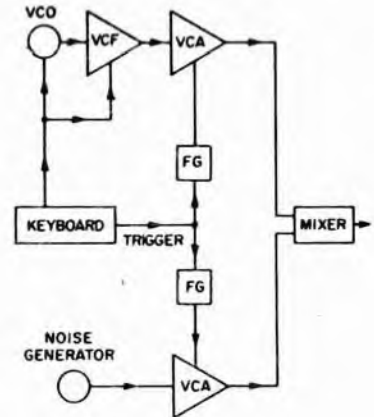

Fig. 15. Adding a little noise to the circuit adds strange qualities to the sound.
We can do a little more to improve realism. For instance, we could add a little noise, as in Figure 15, to simulate the sound of the musician's breath. This noise should have a somewhat faster attack and decay, than the VCO signal, at a much lower level.
**Synthesizing a Drum.** Now that we've synthesized a flute, let's go back to the patch in Figure 15. Would you believe this is the same patch you would use to produce a drum sound? In this case the level of the noise should be much higher than that of the VCO, and the envelopes would be changed to those of Figure 18A.